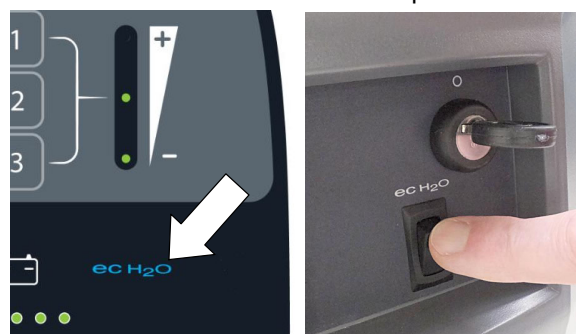

FIG. 66
3. ec-H2O models - The ec-H2O system will automatically turn on at start up. To turn off the ec-H2O system, press the ec-H2O switch located below the key switch (Figure 66).